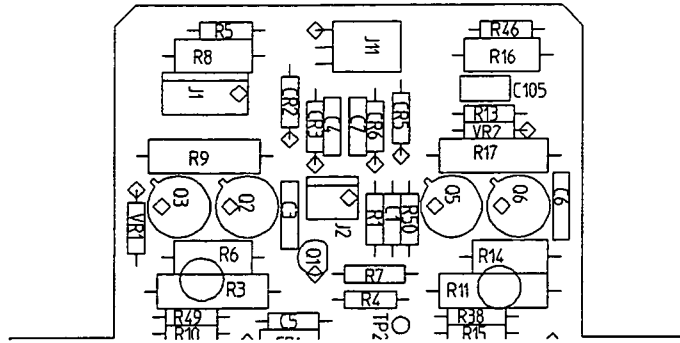

Figure 5-23. A80 Adjustment Locations for Final Focus
- l. Connect the 10:1 probe to A80 TP1 (FOCUS). Refer to figure 5-23.